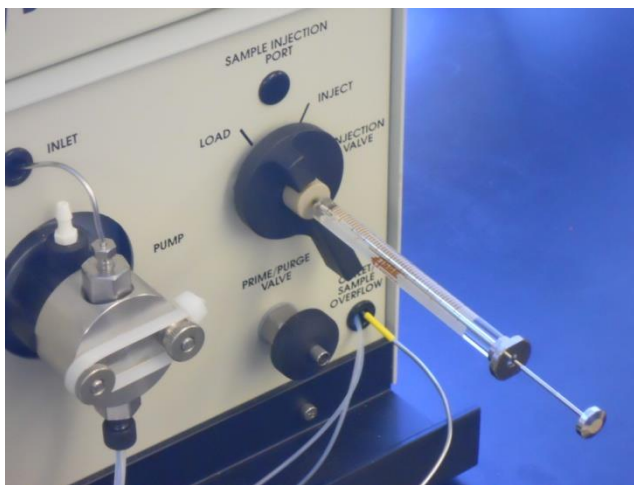

Figure 4. Sample Injection Port with HPLC Syringe Attached
- 9.8.3.3. Insert the syringe needle into the sample injection port. See Figure 4. Sample Injection Port with HLPC Syringe Attached.